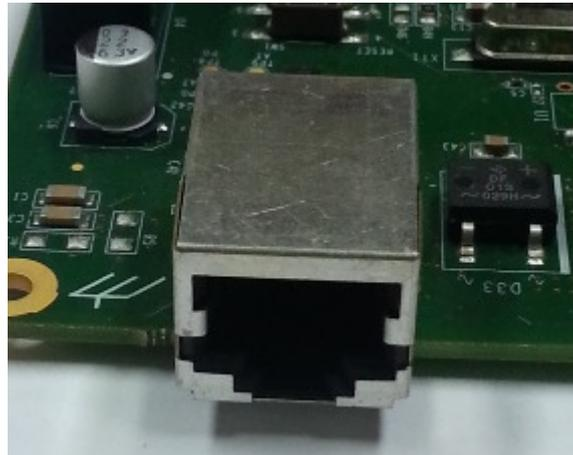

Figure 7: PSE Connector
3. PSE Connector (see Figure 7)